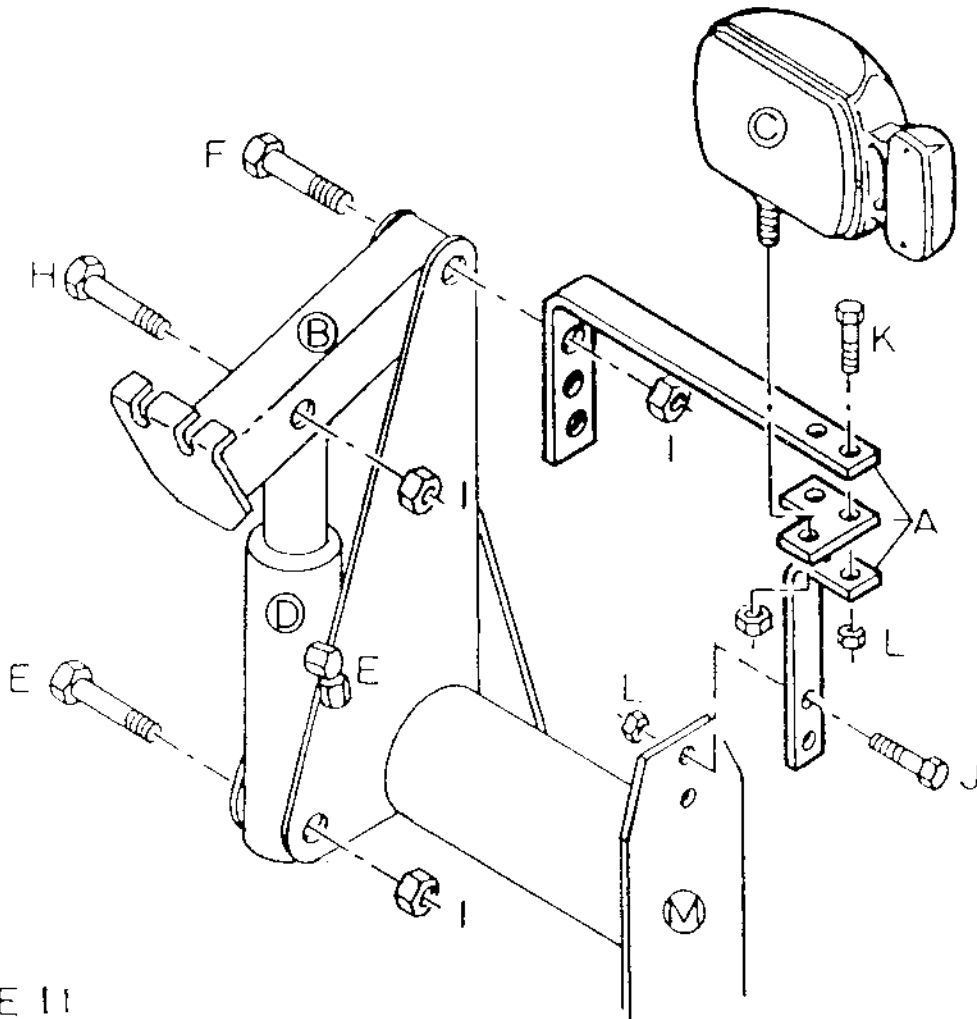

FIGURE 11
1. Install the AUXILIARY LIGHT BRACKETS (Ref. No. A, Fig. 11) to the LIFT TOWER as shown in Figure 11 using the hex head bolts and nuts provided.
2. Install LIFT ARM (Ref. No. B, Fig. 11) to the top of the LIFT TOWER ASSEMBLY using the 5/8" x 4-1/2" HEX HEAD BOLT (Ref. No. F, Fig. 11) and 5/8" SELF LOCKING NUT (Ref. No. I, Fig. 11) provided.
3. Position the LIFT CYLINDER (Ref. No. D, Fig. 11) in its respective position on the LIFT TOWER and fasten by using the 5/8" x 4" HEX HEAD BOLT (Ref. No. G, Fig. 11) and 5/8" SELF LOCKING NUT (Ref. No. I, Fig. 11) provided. Install the 90 DEGREE SWIVEL FITTING (Ref. No. E, Fig. 11). Fasten the rod end of the cylinder to the LIFT ARM using the 5/8" x 3-1/2" HEX HEAD BOLT (Ref. No. H, Fig. 11) and 5/8" SELF LOCKING NUT (Ref. No. I, Fig. 11) provided.
4. Mount the AUXILIARY HEADLIGHTS (Ref. No. C, Fig. 11) to the AUXILIARY LIGHT BRACKETS as shown in Figure 11. Do not tighten the AUXILIARY HEADLIGHT mounting nut as the positioning of the lights will have to be adjusted once the wiring has been completed.